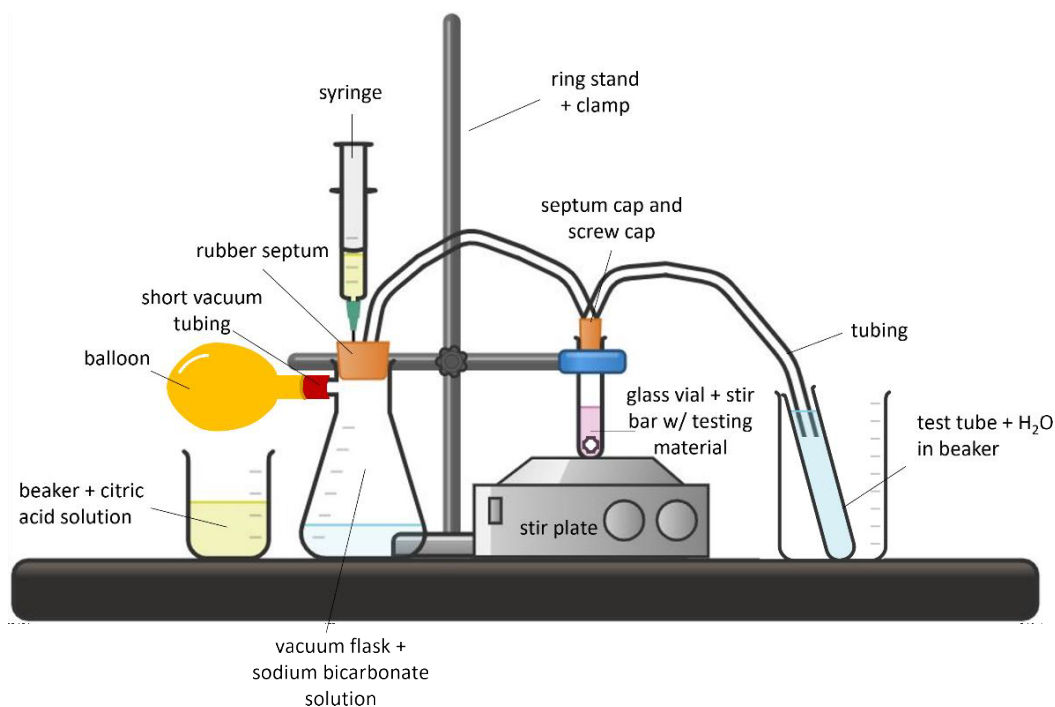

Figure 1: Carbon capture apparatus. Original design by Myrria Lyncee. Illustration made in Chemix by Elise Eng.
3. Using Figure 1 and the example apparatus as a guide, construct the carbon capture apparatus.